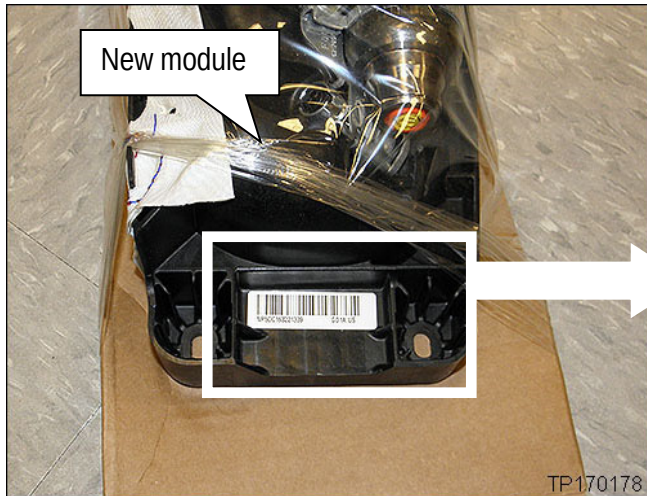

Figure A7
- Remove the module from the shipping box and locate the bar code label (see Figure A7 and A8).